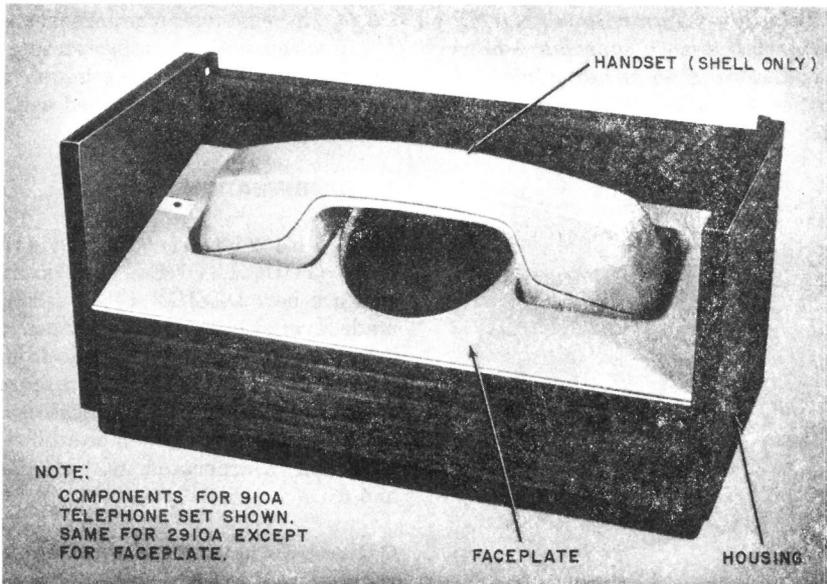

Fig. 4—Customer-Owned Components
**2.01** The 910A (rotary dial) and 2910A (TOUCH-TONE® dial) equipped telephone sets are new DESIGN LINE telephone sets being made available to the customer. The customer buys the housing and handset from the telephone company and the telephone company retains ownership of the transmission and signaling components which are mounted on a removable base and incorporated in the handset (Fig. 4, 5, and 6).